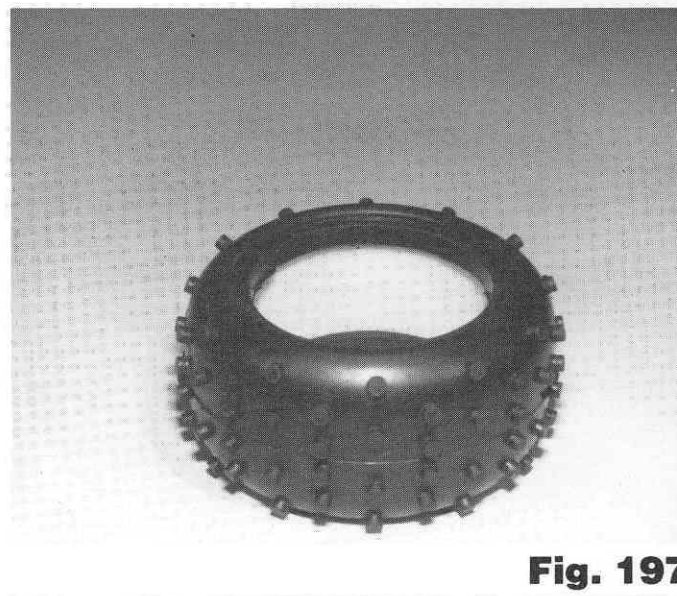

Fig. 197
□ **Fig. 197** They then should look like this.